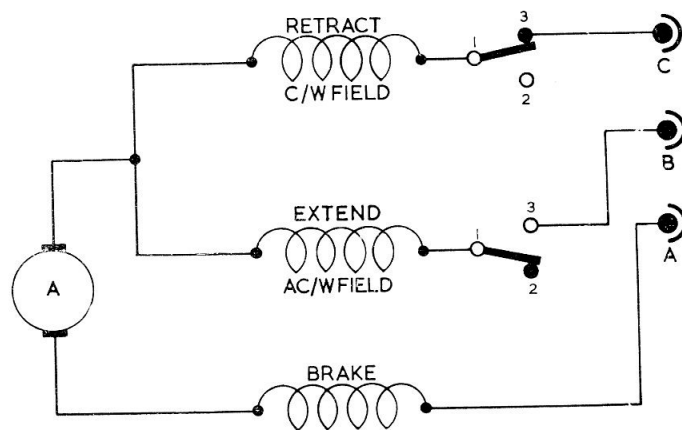

Fig. 3. Diagram of internal connections
11. Two single pole, snap-action limit switches control the ram stroke; they are connected in series with the respective field windings (fig. 3). The switches, mounted on separate plates, are located in a housing offset from the ram and screwshaft. They are operated by the ram exerting pressure on a spring loaded plunger which protrudes through the mounting plate of each switch.